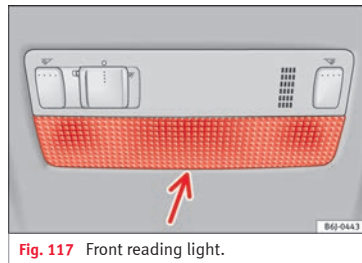

Fig. 117 Front reading light.
- Insert a fine screwdriver between the casing and the glass » **Fig. 117**.